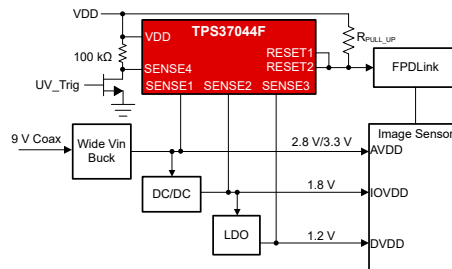

图 8-4. TPS37044F-Q1 Quad-Channel Monitoring With Manual Self-Test Option for Functional Safety
图 8-4 displays a self-test scheme where a manual self-test function can be implemented. Any SENSEx pin can be reserved and used to trigger a fault to be observed at the output, thus pre-checking the TPS3704-Q1 for fault detection. Because the TPS3704-Q1 is functional safety compliant, it helps elevate applications like the automotive ADAS camera achieve ISO 26262 requirements and automotive safety integrity levels. This example uses a TPS37044F-Q1, configured for separate undervoltage and overvoltage (UV/OV) outputs where the SENSE4 thresholds are set at 5.5V for OV and 2V for UV.
图 8-4 shows a self-test scheme where a manual self-test function can be implemented. SENSE4 has an overvoltage (OV) threshold that is set at 5.5V and the undervoltage (UV) threshold set at 2V. SENSE4 can be connected via a  $100k\Omega$  resistor to VDD. The self-test setup gives the added benefit of a built-in overvoltage detector for the rail powering the TPS37044F-Q1. From a functional safety perspective, a voltage supervisor cannot be considered reliable if the supervisor is operating outside its recommended operated limits.